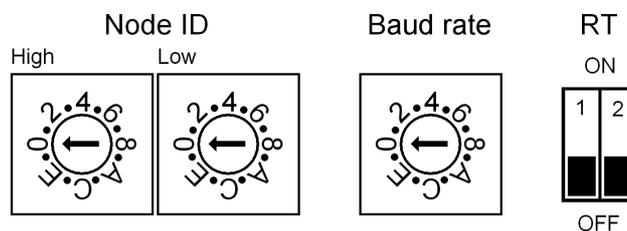

Figure 4: Dip-Switches
4.4 Dip-Switches (Figure 4)
4.4.1 Setting the node address: Node ID (Figure 4)
4.4.2 Setting the data transmission rate: Baud rate (Figure 4)
4.4.3 RT bus termination (Figure 4)